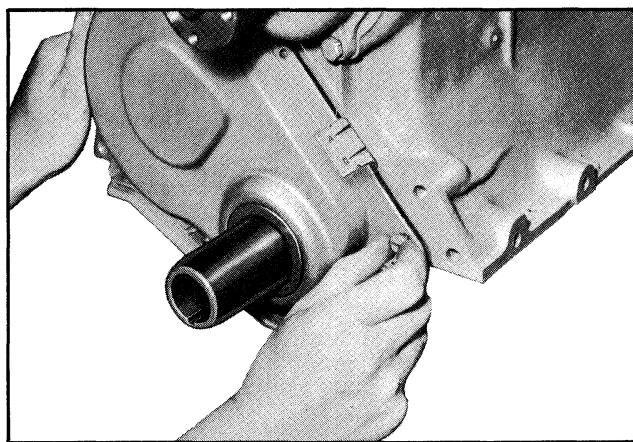

Fig. 6-45 Installing Timing Gear Cover
4. Install cover over centering tool (Fig. 6-45) and install cover screws. Torque screws to 6 to 8 ft. lbs. Remove centering tool.